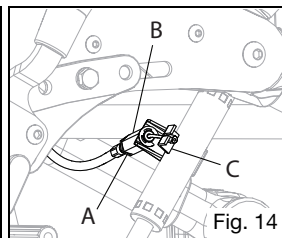

Fig. 14
- a. Unlock the jam nut (Fig. 14:A) from the cable adjuster body (Fig. 14:B) using a 10mm and 3/8" open ended wrench.
- b. Thread the cable adjuster (Fig. 14:C) in or out until the slack in the cable is eliminated, but also so the cogs are still fully seated in the teeth of the rotary frames.